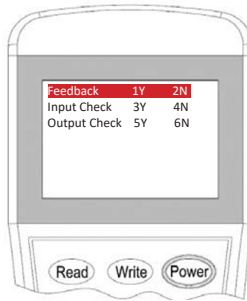

Figure 11
4. Input the “**1**” for Self-feedback mode or “**2**” for External-feedback mode then press “**Write**” to change the setting (Figure 11).